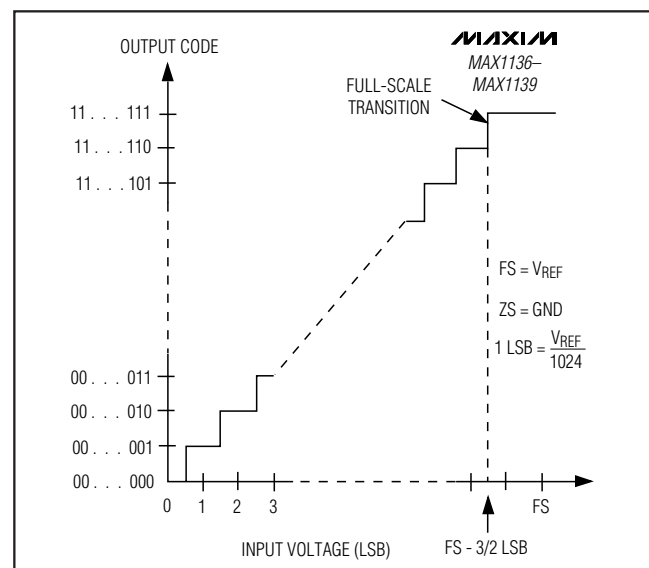
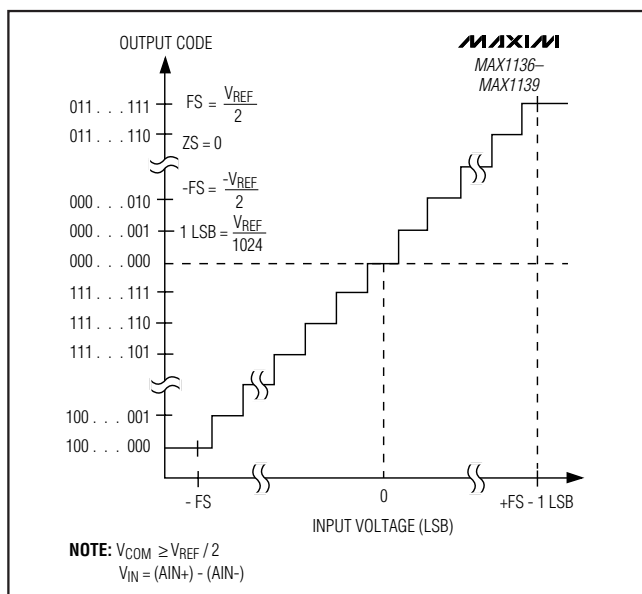

Figure 12. Unipolar Transfer Function
Figure 13. Bipolar Transfer Function
Output data coding for the MAX1136–MAX1139 is binary in unipolar mode and two's complement in bipolar mode with 1 LSB = (VREF/2N) where 'N' is the number of bits (10). Code transitions occur halfway between successive-integer LSB values. Figure 12 and Figure 13 show the input/output (I/O) transfer functions for unipolar and bipolar operations, respectively.